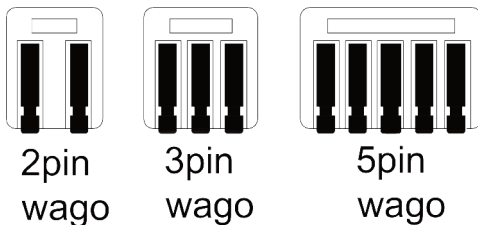

FIG.13
2. All Wiring inside the fixture use WAGO connector of 5 PIN, 3 PIN and 2 PIN (See **FIG.13**). If need to remove or replace any component in the driver compartment, please keep the WAGO connector for future use.